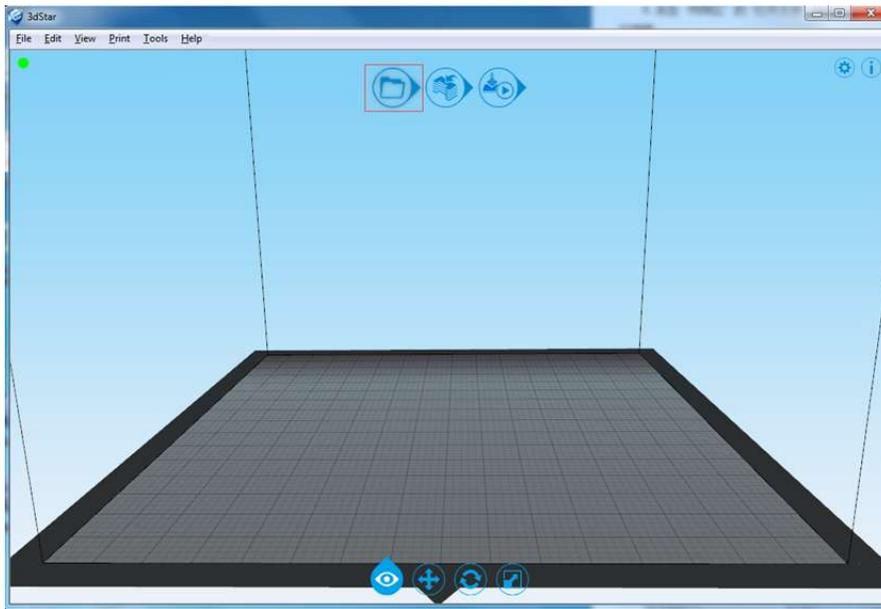

Figure 4.5
7. Open models, see figure 4.5.